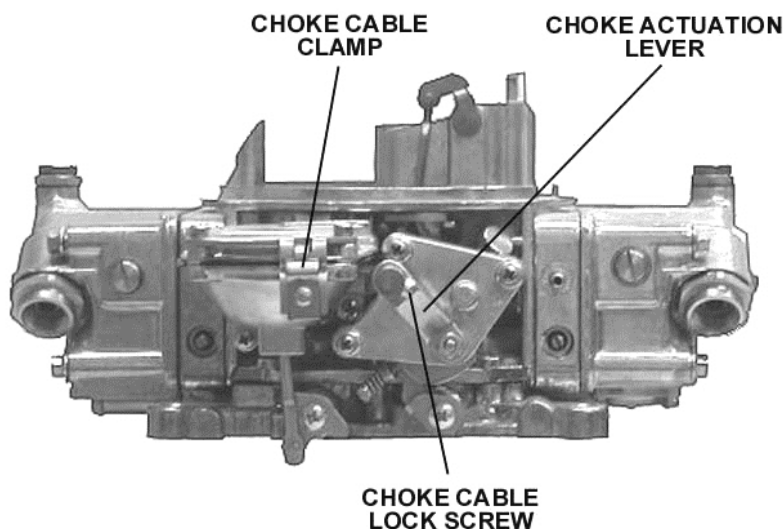

Figure 7 Manual choke parts (0-3310S shown)
A. Connect the choke control cable (Holley® P/N 45-228) to the choke actuation lever, and lock in place with the choke cable lock screw (Figure 7).
1. Attach the vacuum gauge to a manifold vacuum port on the throttle body (Figure 7).